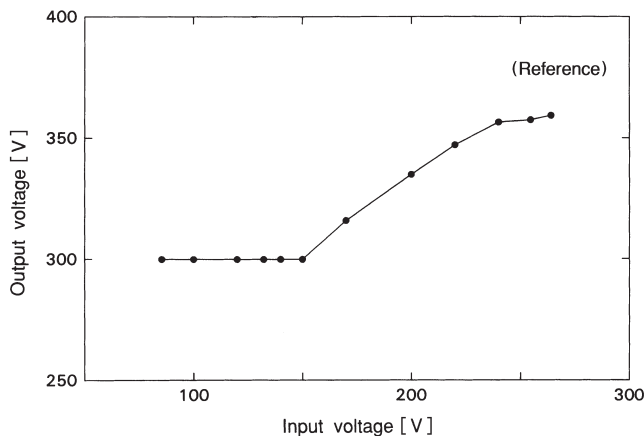

Fig.16.1 Output voltage (Actually measured data)
- V_o : Output voltage (Refer to Fig.16.1) [V]